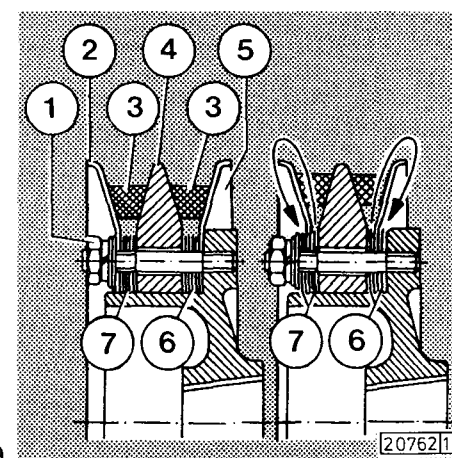

Fig. 49
- Unscrew hex. nuts 1 (Fig. 49).
- For the purpose of retensioning the belts, take one or more shims – as may be required – from packs 6 and 7 and place them before or behind the half-pulleys (Fig. 49) to ensure alignment of the belts. The number of shims taken from each pack at a time must always be the same.